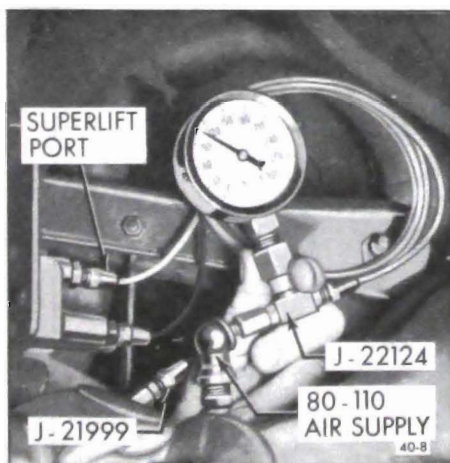

Figure 40-9 - Connect Test Gage to Superlift Outlet
5. Connect test gage J-22124 to Superlift outlet on height control valve and attach an 80-110 psi air pressure source to test gage. See Figure 40-9.